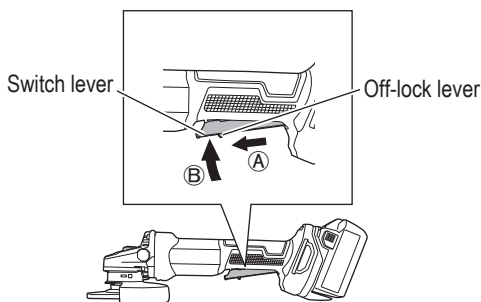

Fig. 16
To switch on, slide the off-lock lever in the direction of (A) and press the switch lever in the direction of (B) as shown in Fig. 16. Release the switch lever to switch off.